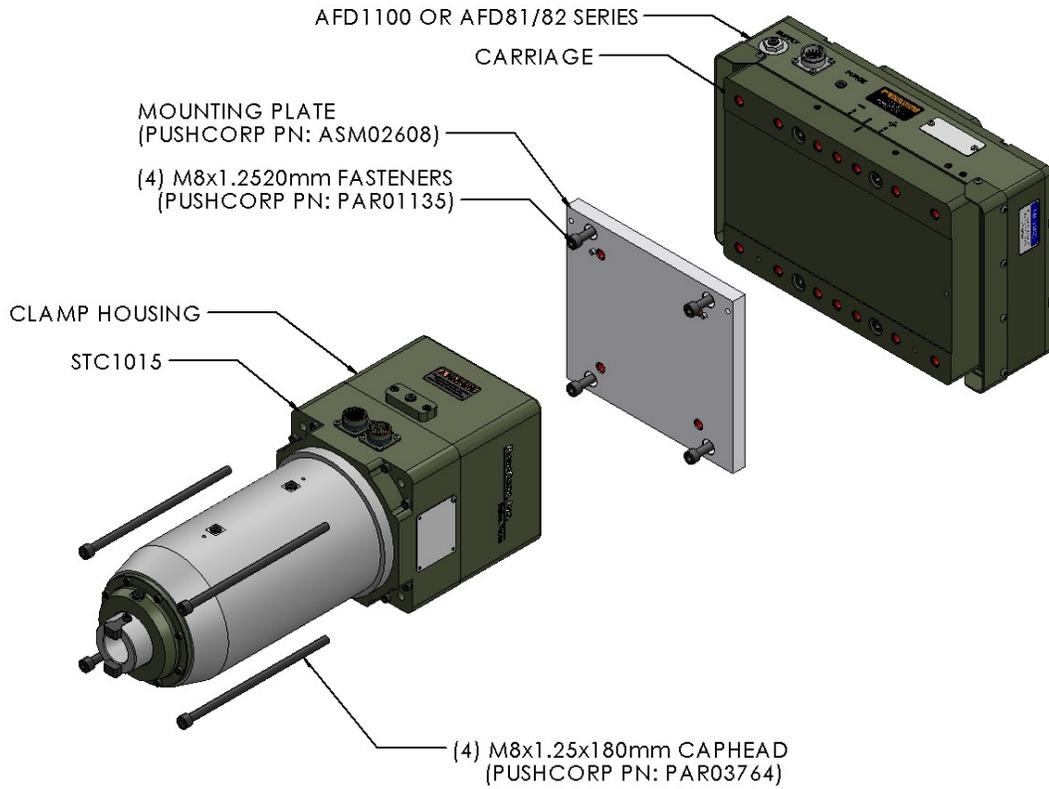

Figure 1. STC1015 Perpendicular-Axis Configuration
To attach the STC1015 to an AFD in a Perpendicular-Axis configuration, position the Clamping Housing over the Carriage as shown in Figure 1. Then secure the unit using four (4), M8x1.25x180mm, Socket Head Cap Screws. Tighten the fasteners to the torque specified in Section 4.0.